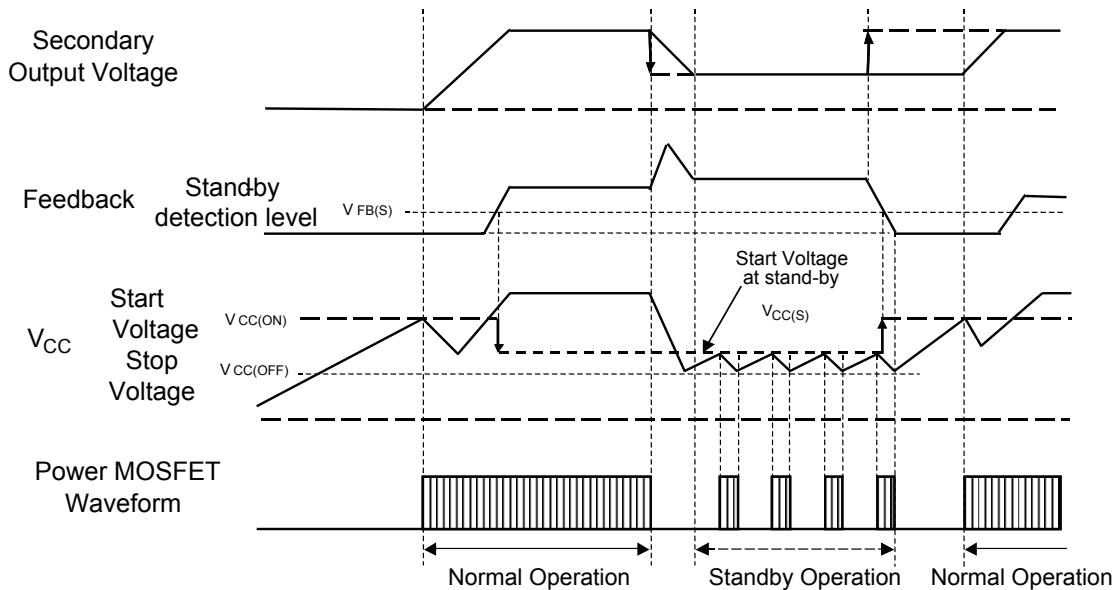

Figure 19. Quasi-resonant to bottom-skip operation timing
**Manual standby mode (external trigger)** The manual standby mode is remotely controlled by a clamp on the secondary side to reduce the output voltage. Then, the transformer winding voltage drops and it reduces the bias winding voltage and the VCC pin (pin 4) voltage decreases. When the VCC pin voltage reaches the Operation-Stop voltage (9.7 V), the IC stops its operation, and current consumption of the IC becomes the Standby Non-Operation Circuit Current,  $I_{CC(S)}$ . The IC will not restart its operation until the VCC pin voltage rises to the Standby Operation Start Voltage,  $V_{CC(S)}$ , by charging the start-up capacitor (C3) through the start-up resistor (R2). By repeating this cycle, the IC maintains a UVLO intermittent oscillation mode. This is illustrated in figure 19.